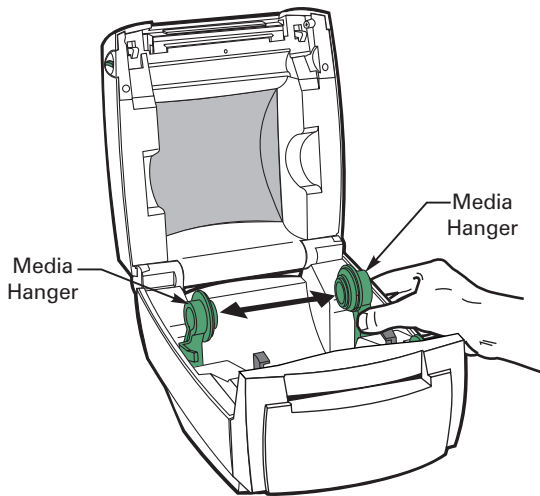

Figure 15
2. Separate and hold open the media hangers (refer to Figure 15).